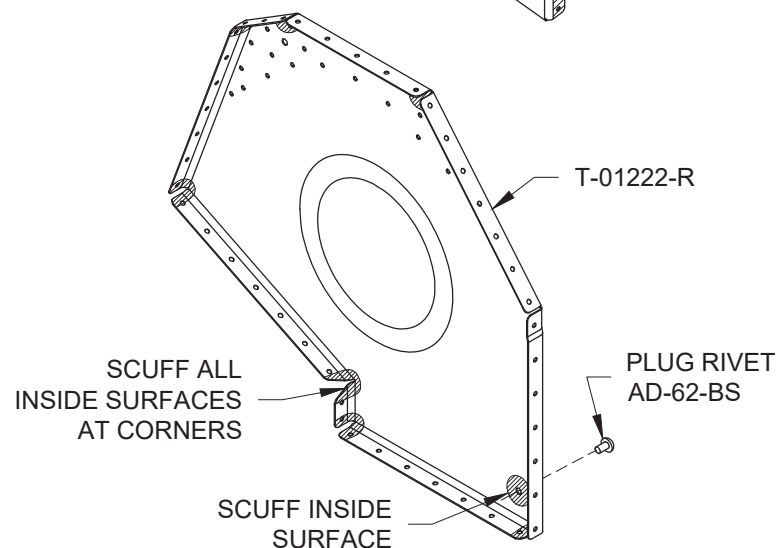

FIGURE 3: ADDITIONAL SCUFFING FOR T-01222-L & -R
Step 4: Scuff around, then install a plug rivet into the #12 tooling hole in the T-01222-L & -R end ribs as called out in Figure 3.